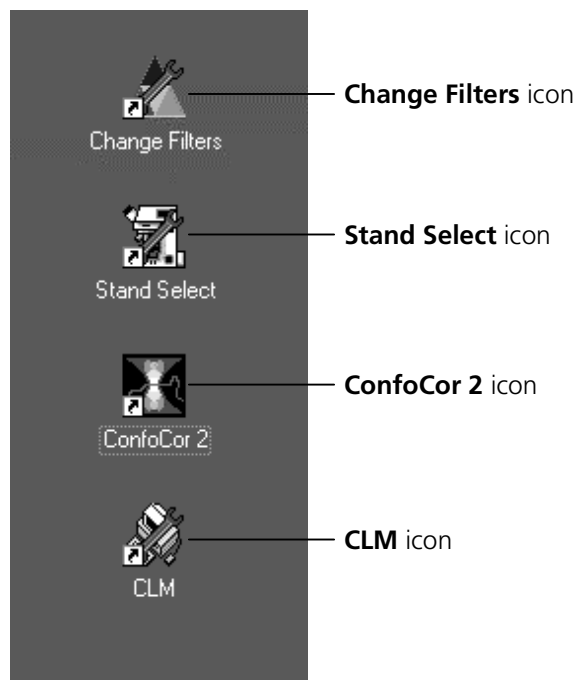

Fig. 3-5 **WINDOWS NT operating system desktop (section)**
- The WINDOWS NT operating desktop appears on the screen, showing a number of icons (Fig. 3-5).
- Double-click on the **ConfoCor 2** icon on the desktop of WINDOWS NT or WINDOWS 200 to start the ConfoCor 2 software program (see Fig. 3-5).